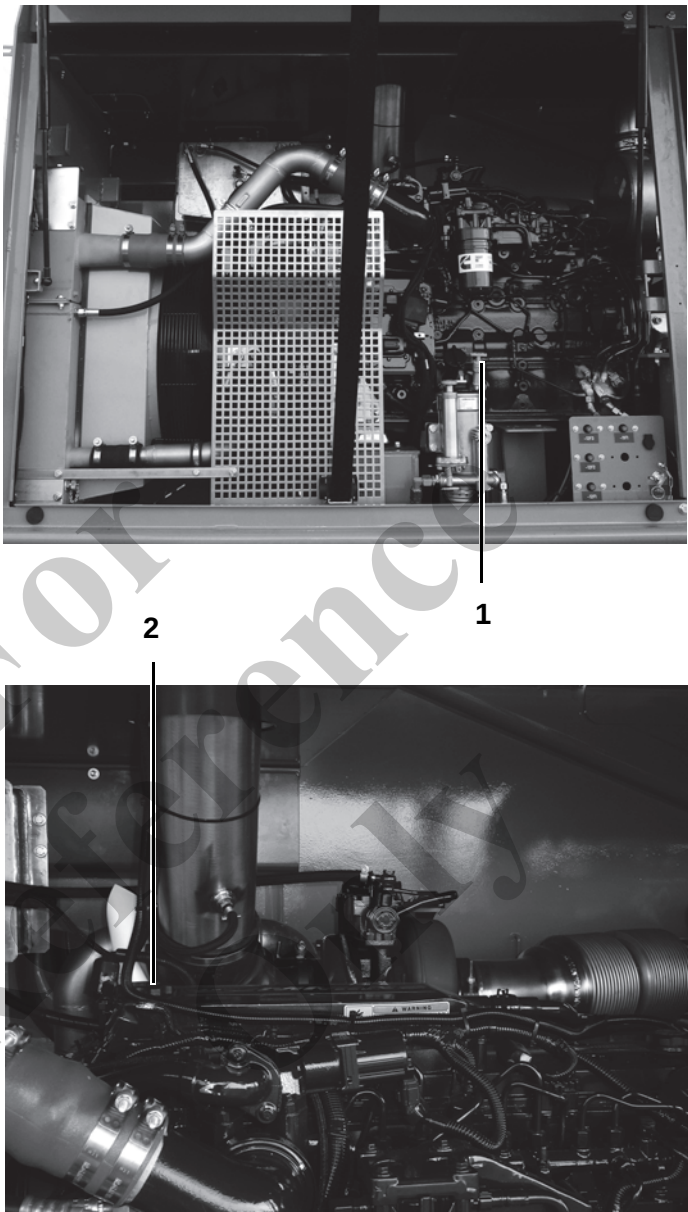

Fig. 8 Oil dipstick and filler neck
5	Remove oil dipstick (1) in Fig. 8 and wipe it off with a clean, lint-free cloth.
8	If necessary, top up engine oil via the filler neck (2) in Fig. 8 as specified in the operating manual provided by the engine manufacturer.